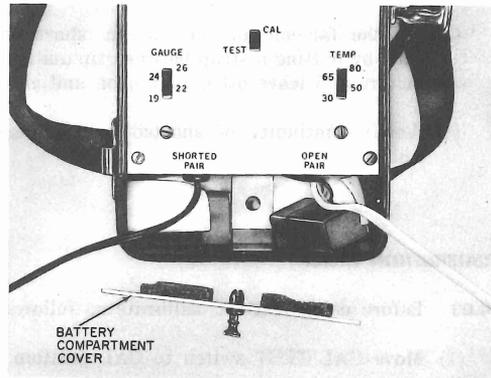

Fig. 5—Battery Replacement
- (1) Remove battery cover by pulling up on latch button in test lead compartment; gently lift nylon strip and disconnect spent batteries (see Fig. 5).
- (2) Connect snap fasteners of fresh batteries to test set terminals.
- (3) Place fresh batteries on nylon strip and gently reposition in battery compartment.
- (4) Replace battery cover and push down on latch button to secure.